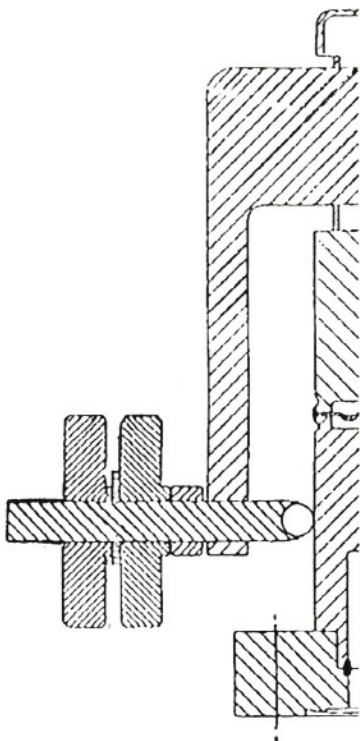

Fig. 2
- When the collar butts against the handle, the stop position is reached. See Figure 2 on the following page.